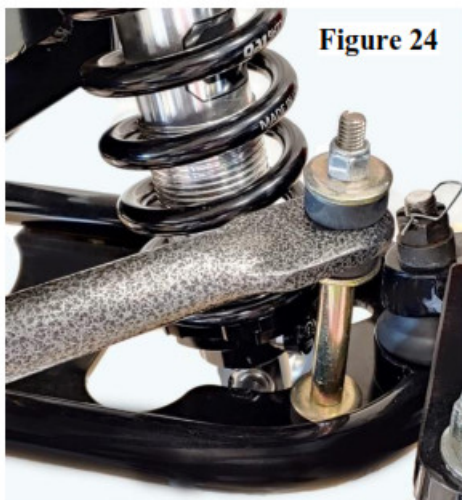

Figure 24
1. Install the sway bar to the control arms with the included end links. The sway bar and control arm connections will use two bushings and two washers with the sleeve separating them. (Figure 24 & 25) Tighten the end link until the bushings compress to the same diameter as the washers.